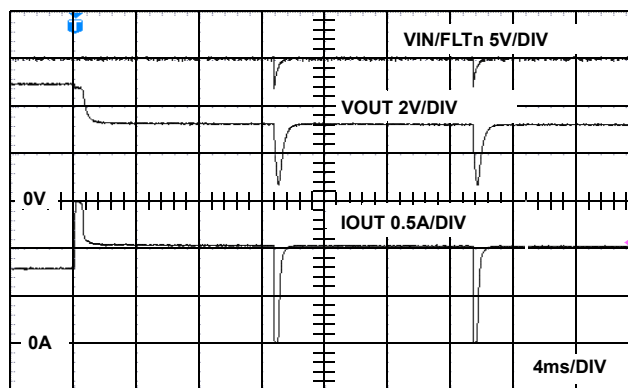

FIGURE 22. AUTO RESET OPERATION
Initially as voltage is applied to VIN, the pull up resistor (Rpu) provides for pull up to VIN on both the ENABLE pin asserting the output once VIN > 2.5V and on the FLTn pin. Once turned on and an overcurrent (OC) condition occurs the IC provides CR protection for 10ms and then the FLTn pin pulls low through Rpu and also pulling the ENABLE low thus resetting the device fault condition. At this time the Rpu charges the cap and the voltage on the ENABLE/FLTn node rises until the ENABLE > 2.0 and the output is asserted on once again. This automatic reset cycle will continue until the OC fault no longer exists on the output. After several seconds in this mode of operation the IC thermal protection invokes adjusting the timing of the on-off cycle to prevent excessive thermal dissipation in the power switch protecting itself and surrounding circuitry. See Figure 22 for operation waveform.